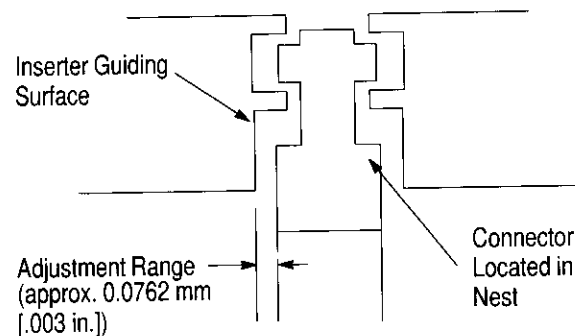

Figure 6
6. Check that the inserter guiding surface is within the adjustment area, as shown in Figure 6.